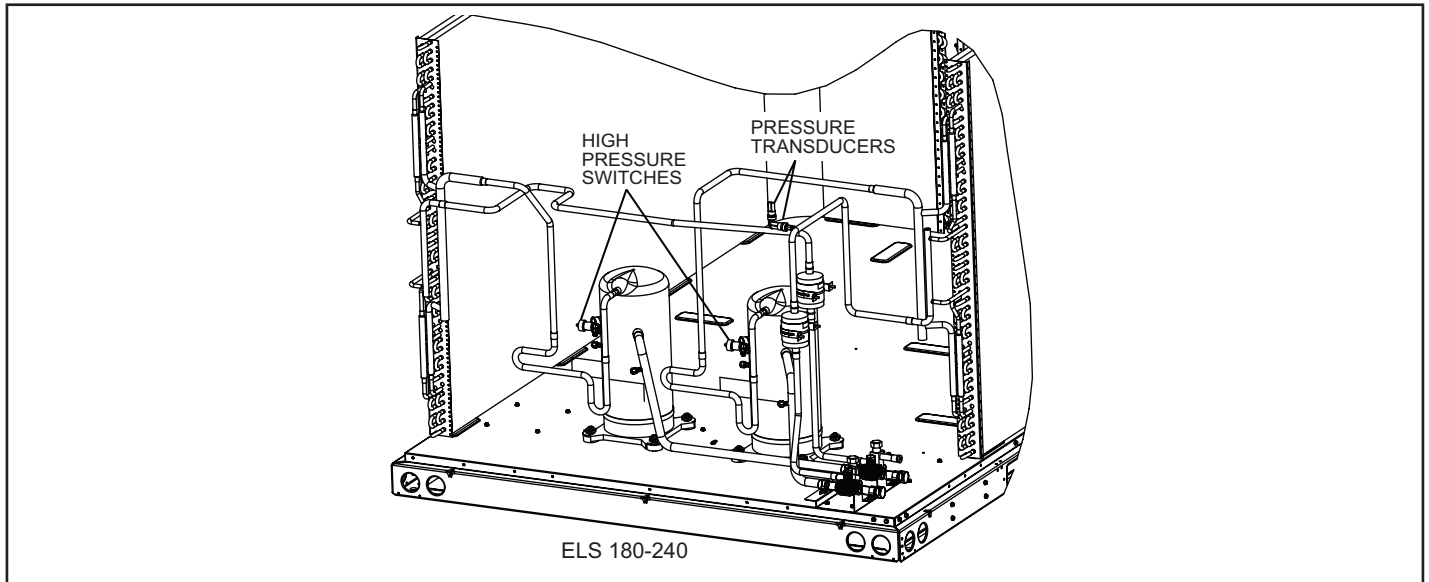

FIGURE 2. Pressure Transducer / Pressure Switch Locations
- 7 - Install the two pressure transducers (ICM380) to the valve core of the valve depressor tees on stage 1 and stage 2 liquid lines. Refer to figure 2.